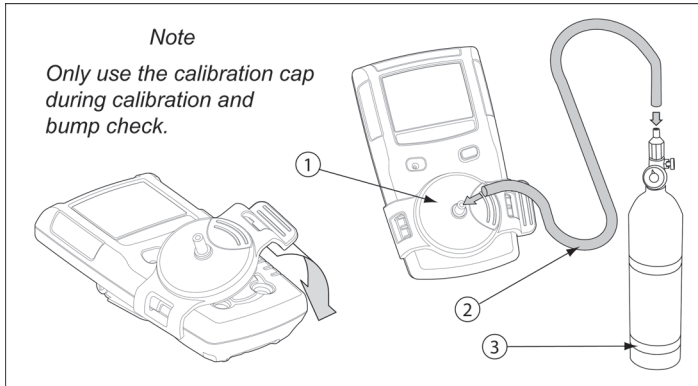

Figure 8. Connecting the Gas Cylinder to the Detector
Refer to the following Figure 8, Table 11, and procedures to connect the gas cylinder to the detector for calibration.
5. Attach the calibration cap to the detector. Refer to Figure 8. Open the valve on the regulator and apply gas at a flow rate of 250-500 ml/min.